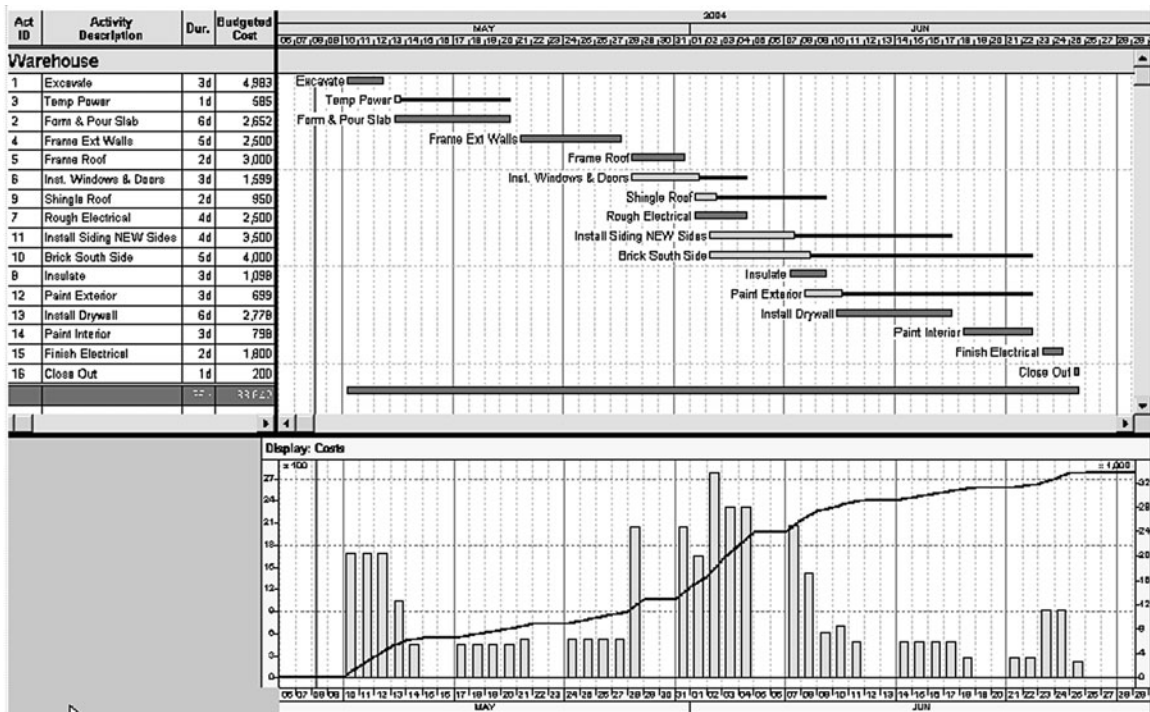

FIGURE 21.19 Cash-loaded schedule for the warehouse project
5. To view the Resource Profile at the bottom of the computer screen, click on **View** and select **Resource Profile**, or click on the Resource Profile icon . Then choose **ACTVALUE** in the bottom left of the Resource Profile window. Next, press the **Format . . .** button and select the **Display** tab. In the **Display** box, select **Budget, Calculate Total** and show the **timescale with Day intervals** in order to get daily cash flow. (Normally you would probably want monthly intervals, but for this little project we will choose daily intervals.) Select the **Profile** tab and **Show the histogram as Bars, Side by side** and also **Show the total cumulative curve** and **OK** the window. You may need to slide the vertical bold line separating the columns from the bars to the left to display more of the bar chart in order to see the cash flow histogram. Also, if you want to see daily costs, change the timescale of the bar chart to show each day. The cash-loaded schedule should look similar to Figure 21.19.
The vertical bars in Figure 21.19 show the daily cash flow with the values on the left side, which you notice is multiplied by 100. The cumulative activity value is shown as a progress S-curve with the values on the right side, which you notice is multiplied by 1,000. If you place the mouse arrow on a vertical bar and left-click the mouse, you see the periodic costs for that time period. Right-click, and you see the total accumulative costs up to that date.